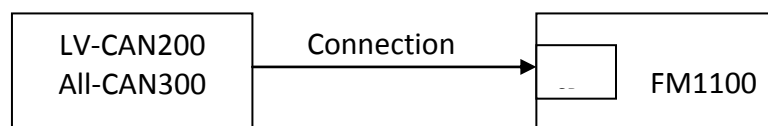

Figure 57 Connect adapter LV-CAN100 to FM1100
**SCAN function** – is in use when FM1100 is connected to CAN adapter (Figure 57), then wait 10s (Note, that car engine must be started), disconnect adapter from FM1100, and connect PC USB cable to FM1100 Device (Figure 57). It is very important not to disconnect FM1100 from power source during this operation, because if FM1100 is reconnected all received CAN bus data will be lost. FM1100 remembers received data from LV-CAN200 or ALL-CAN300 and at the end of the procedure when “SCAN” button is pressed, user will see all CAN data which is sent by adapter. Enable CAN data which needs send to server and save configuration pressing “Save” button.
1. In car, connect LV-CAN200 or ALL-CAN300 to CAN bus and to the FM1100 device (Figure 57), wait 10 seconds. Note, that car engine must be started.